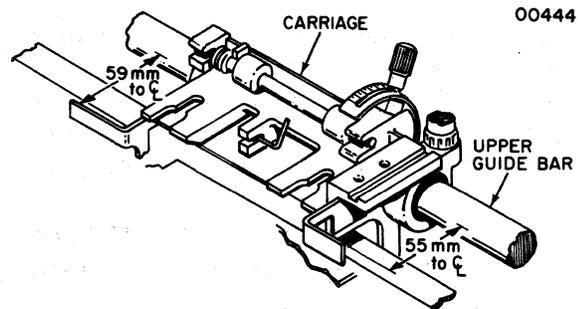

Figure 6-3 Carriage Actuator Arms Adjustment
6.2.3 CARRIAGE ACTUATOR ARMS ADJUSTMENT—Refer to Figure 6-3.